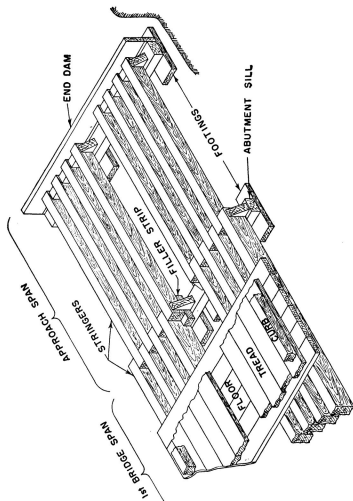

FIGURE 114.—Abutment showing approach span used for soft road-way approach.
h. End dam.—Plank at abutment of bridge, used to hold earth in place behind abutment. (See fig. 114.)
i. Footing.—Piece of wood used beneath supports to give added bearing surface on ground. (See fig. 114.)
a. The simple stringer bridge is usually short. It consists of three elementary parts: two abutments, a single span of stringers, and a floor. Two types of abutments are used, one for use with soft approach roadways, the other for use with firm roadways. (See fig. 114.) Every engineer soldier should know how to construct a simple stringer bridge. Trestle bridges are merely a succession of simple spans in which the trestles take the place of abutments. Timber stringers are seldom used in spans of over 15 feet or steel stringers in spans of over 25 feet.